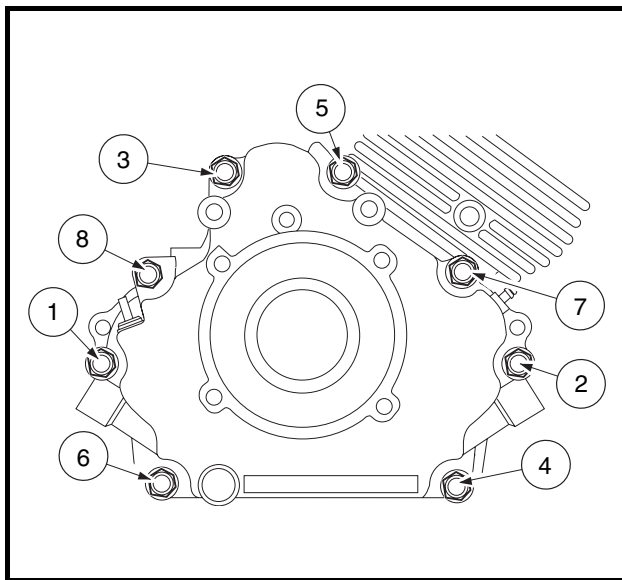

Figure 13-9 Crankcase Cover Installation
3. Install and finger tighten evenly the eight cover mounting bolts (**Figure 13-9, Page 13-9**).